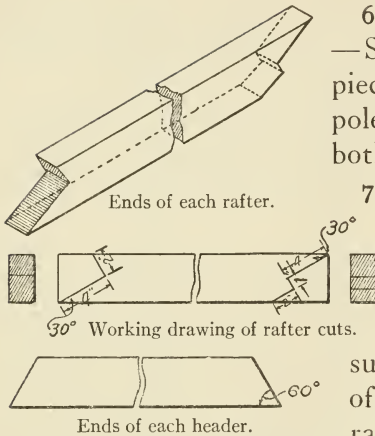

FIG. 106. — RAFTER AND HEADER.
5. **Laying out and sawing the rafters.** — The rafters slope at an angle of 60 degrees with the horizontal. The lower ends fit over the edge of the side pieces, and the ridgepole fits into the top. Figure 106 shows how the two ends of each rafter are cut. Lay out and saw.
8. **Laying out and nailing headers and trimmers.**—The ends of the headers are to be cut at an angle of 60 degrees, as shown in Fig. 106, so as to fit the rafters. There is one for each end of the cot. The two trimmers are placed at one end for the door.